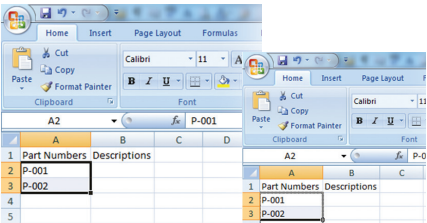
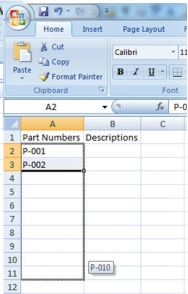

FIGURE 3 Enter two rows of numbers ...
FIGURE 4 ... then drag your cursor the number of cells equal to the total number of labels in your sequence.
- A. Enter your first two sequential numbers in cells A2 and A3 (Fig. 3). Select cells **A2** and **A3** and place your cursor over the little box in the lower-right corner of the selection. Your cursor becomes a “+.” Now click and drag the selection down the **number of cells equal to the number of labels** in the sequence (Fig. 4).